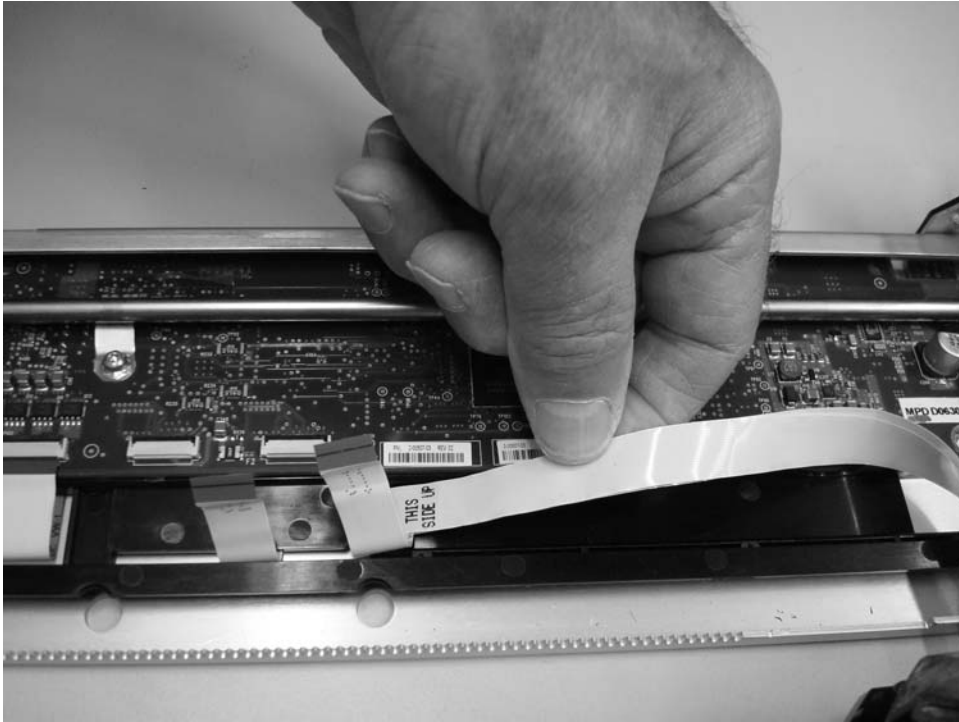

Figure 8-68. Slide cable to the rear
- d. Slide the flex cables to the rear as in Figure 8-68 on page 8-68.